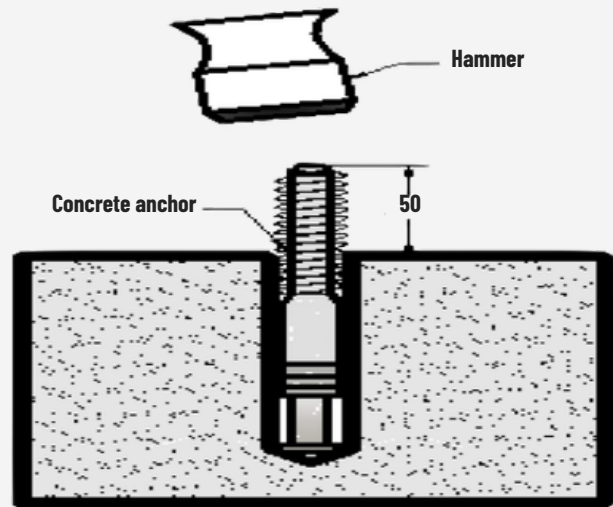

Figure 2 - Drilling XGeo mounting anchor hole
6. To lock the anchor in place, (see Figure 2) take the hammer and strike the anchors top with several sharp and square blows. The anchor should recess into the concrete approximately 1/8 inch. Grab a hold of the anchors exposed threads and attempt to pull up on the anchor. The set anchor should be tightly secured and should not be withdrawn from the surface when pulled upon.